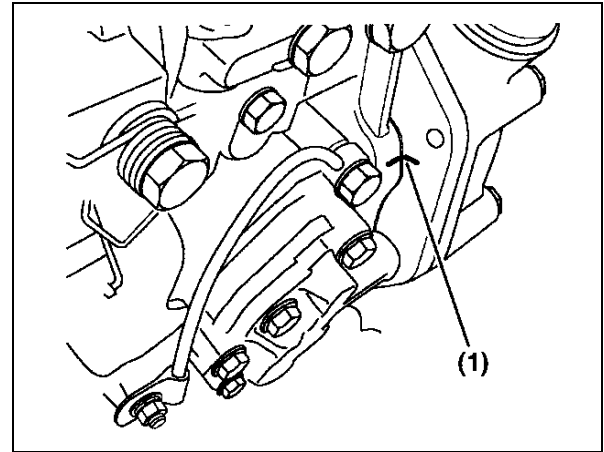

Figure 10
- (22) Locate the mark stamped into the upper outside mounting boss of the fuel injection pump. Highlight this mark and make a corresponding mark on the gear case or front plate (Figure 10, (1)).